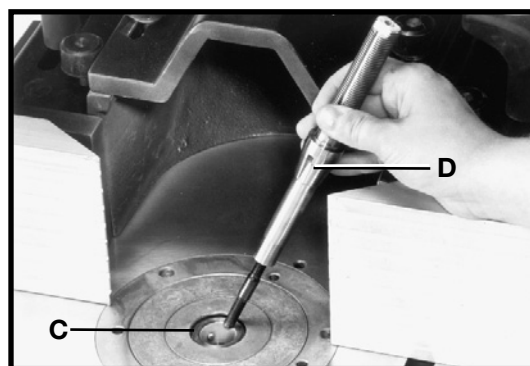

Fig. 10
2. Insert tie rod and spindle into the spindle cartridge. Line up the pin (C) Fig. 10 with the notch (D) in the spindle.